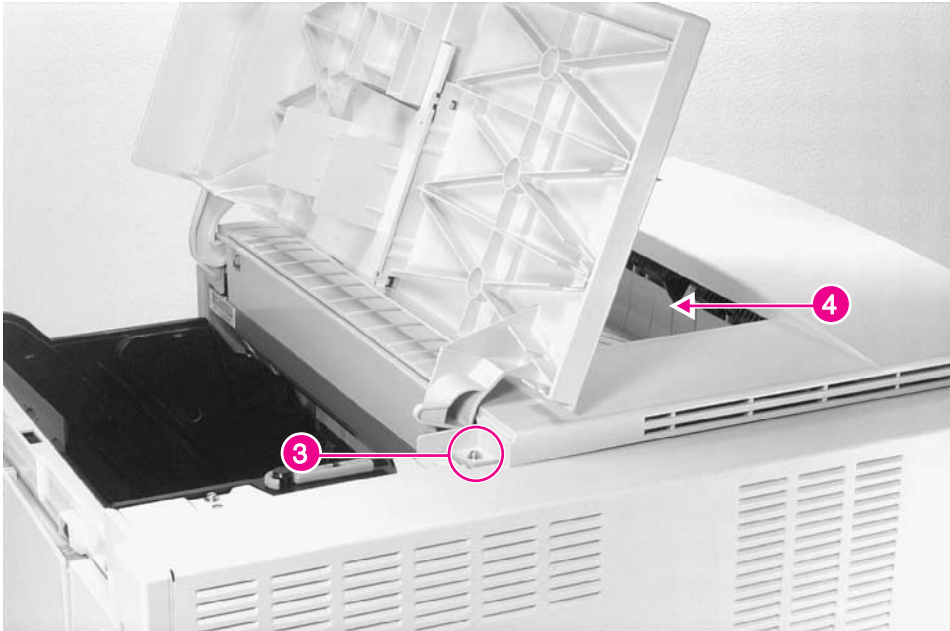

Figure 6-11 **Top Cover (2 of 2)**
- 3** Open the top cover door, and remove 1 screw (figure 6-11, callout 3).
Be careful not to damage the Standard Output Bin Full sensor flag (figure 6-11, callout 4) when removing the top cover.
Be careful not to damage the Standard Output Bin Full sensor flag (figure 6-11, callout 4) when replacing the top cover.
- 2 Slide the Standard Output Bin under the Standard Output Bin Full sensor flag, and make sure that the cam (figure 6-11, callout 4) at the rear of the top cover door is properly positioned while lowering the top cover into place.